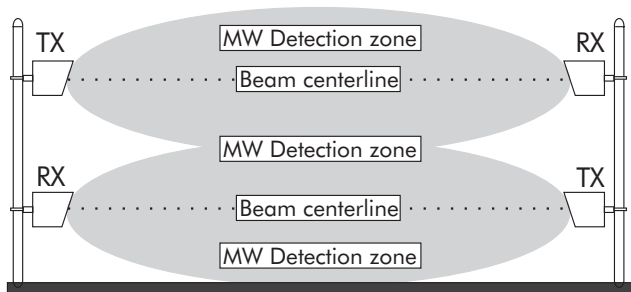
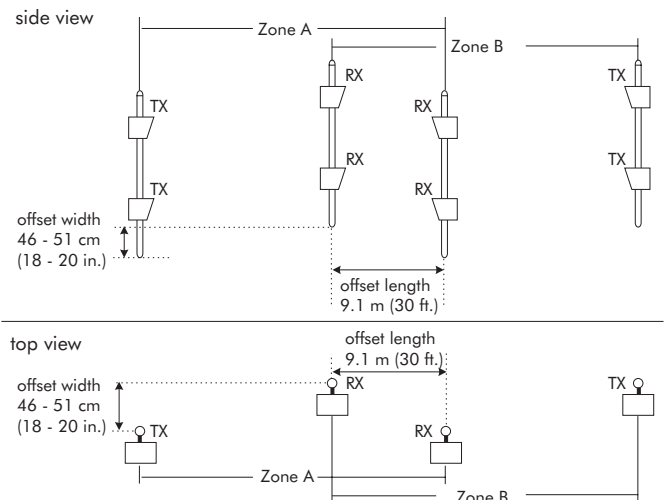

Figure 1: Stacked standalone microwave detection zones
Figure 2: Stacked multiple in-line microwave detection zones
Bistatic microwave sensors have been used in security applications for many years. Typically, microwave sensors provide a detection zone with a limited height. One method of increasing the height of the detection zone is to stack two transmitter-receiver pairs, with one pair mounted above the other (see figure 1). This method of stacking microwave sensors can be used to detect bridging attempts made with ladders or other climbing apparatus.
3. For stand-alone (single zone) or perpendicular zone configurations, install one transmitter and one receiver on each post (see Figure 1). Ideally, the two pairs fire in opposite directions. Alternatively, the two transmitters or two receivers can be installed on the same post (see Figure 2). Generally, the choice is dictated by site wiring considerations.
4. For multiple in-line zones, mount 2 transmitters on one post, and 2 receivers on another (see Figure 2). Ensure that the modulation frequencies and polarizations of the 2 units on each post are different.